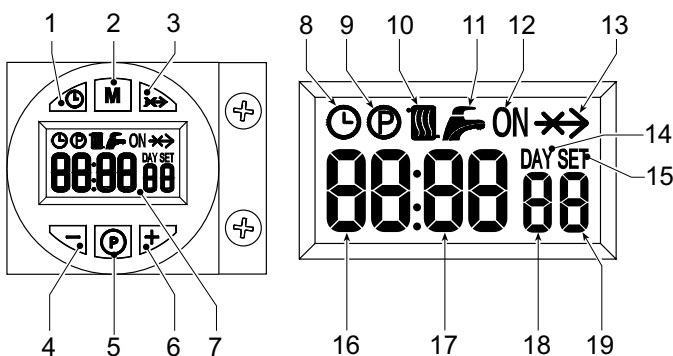

fig. 1 - Control panel
El quemador está dotado de un avanzado sistema de autodiagnóstico. En caso de anomalía del quemador, la pantalla (7 - fig. 1) parpadea indicando el código de error.
Algunas anomalías (indicadas con la letra **A**) provocan bloqueos permanentes: para restablecer el funcionamiento es suficiente pulsar la tecla **P** (5 - fig. 1) durante 1 segundo. Si el quemador no se vuelve a encender, es necesario solucionar la anomalía.
| Ref. fig. 1 | Method A | Method B and C |
The lighting request (generated on closing of the contact on terminals 7-8 (see fig. 14), in default setting conditions) is indicated by activation of the radiator symbol (detail 10 - fig. 1).
1. Press the day/time setting button (detail 1 - fig. 1).
2. The CLOCK and DAY icons flash on the display (detail 7 - fig. 1): set the current day of the week with the + and - buttons (details 4 and 6 - fig. 1), considering that 1=Monday, 7=Sunday. Confirm the day by pressing the day/time setting button (detail 1 - fig. 1).
3. The two digits of the CURRENT HOUR and the CLOCK icon flash on the display (detail 7 - fig. 1): set the exact hour with the + and - buttons (details 4 and 6 - fig. 1), from 00 to 23. Confirm the hour by pressing the day/time setting button (detail 1 - fig. 1).
4. The two digits of the CURRENT MINUTES and the CLOCK icon flash on the display (detail 7 - fig. 1): set the exact minutes with the + and - buttons (details 4 and 6 - fig. 1), from 00 to 59. Confirm the minutes by pressing the day/time setting button (detail 1 - fig. 1). Automatic Heating, Manual On, Manual Off mode
Press the operation mode selection button (detail 2 - fig. 1) to set the:
1. In Automatic mode, the display (detail 7 - fig. 1) shows the CLOCK icon. The burner activation and deactivation request depends on the set weekly programme. In the request time band, the display (detail 7 - fig. 1) also shows the ON icon.
2. In Manual On mode, the display (detail 7 - fig. 1) only shows the ON icon. The burner is always in request status.
3. In Manual Off mode, the display (detail 7 - fig. 1) does not show the ON icon or the CLOCK icon. The burner is off.
The weekly programme is preset with 3 ON time bands and 3 OFF time bands; equal for every day of the week. In the request time band, the display (detail 7 - fig. 1) shows the ON icon.
1. Press the Programming button "P" (detail 5 - fig. 1)
2. Select the day to be programmed with the + and - buttons (details 4 and 6 - fig. 1):
3. Press the Programming button "P" (detail 5 - fig. 1):
- Use the + and - buttons (details 4 and 6 fig. 1) to modify the start of the 1st ON time band; e.g. 06:00 Press the Programming button "P" (detail 5 - fig. 1)
- Use the + and - buttons (details 4 and 6 fig. 1) to modify the start of the 1st OFF time band; e.g. 09:00 Press the Programming button "P" (detail 5 - fig. 1)
- Use the + and - buttons (details 4 and 6 fig. 1) to modify the start of the 2nd ON time band; e.g. 12:30 Press the Programming button "P" (detail 5 - fig. 1)
- Use the + and - buttons (details 4 and 6 fig. 1) to modify the start of the 2nd OFF time band; e.g. 14:00 Press the Programming button "P" (detail 5 - fig. 1)
- Use the + and - buttons (details 4 and 6 fig. 1) to modify the start of the 3rd ON time band; e.g. 16:00 Press the Programming button "P" (detail 5 - fig. 1)
- Use the + and - buttons (details 4 and 6 fig. 1) to modify the start of the 3rd OFF time band; e.g. 23:30 Press the Programming button "P" (detail 5 - fig. 1)
11. Press the Programming button "P" (detail 5 - fig. 1) for 3 seconds to exit the programming mode.
Press the programming button "M" (detail 2 - fig. 1) for 5 seconds to access the parameters menu. Parameter "u01", identified by the message SET 01, is displayed. Press the button "P" (detail 5 - fig. 1) to scroll the list of parameters.
To modify the value of a parameter, press the + and - buttons (details 4 and 6 - fig. 1): the change will be automatically saved. After modifying the parameter, it is necessary to wait 3 seconds: the datum item flashes and is saved.
Press the "operation mode selection - M" button (detail 2 - fig. 1) for 5 seconds to exit the menu.
Press the programming button "P" (detail 5 - fig. 1) for 10 seconds to access the parameters menu. Parameter "t01", identified by the message SET 01, is displayed. Press the button "P" (detail 5 - fig. 1) to scroll the list of parameters.